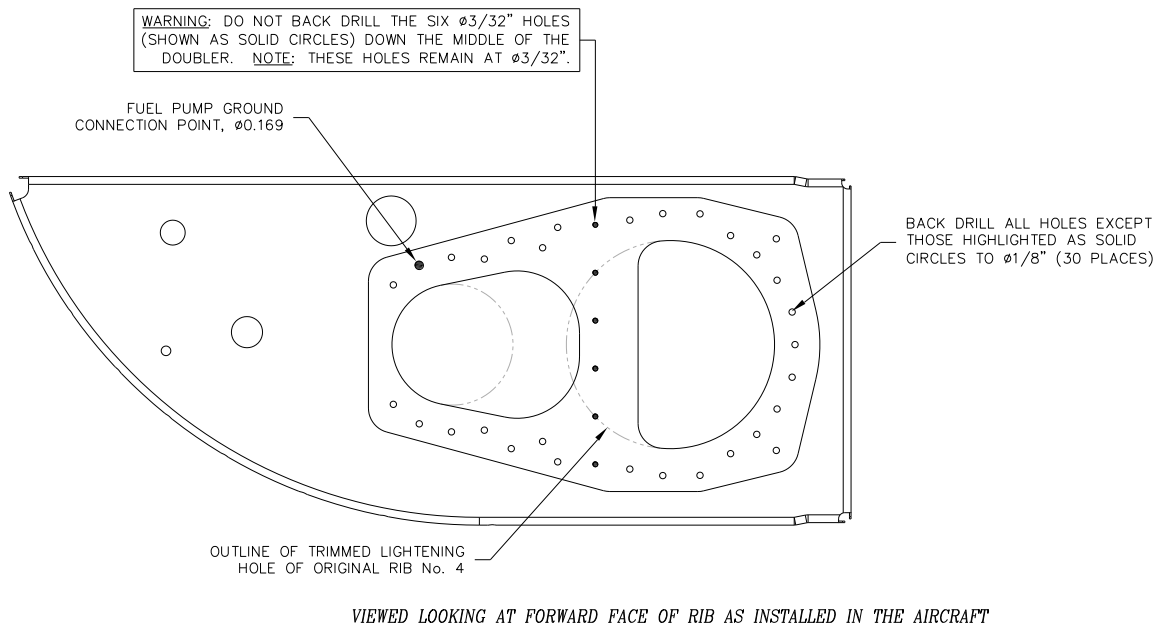

Figure 3
18. Position the rib no. 4 doubler (P/N GA8-532021-173) on the forward face of the rib, centrally over the lightening holes of the rib in accordance with figure 3. Back drill the holes in the doubler to 1/8" diameter in accordance with figure 3.
DO NOT BACK DRILL THE SIX 3/32" DIAMETER HOLES DOWN THE MIDDLE OF THE DOUBLER (SHOWN AS SOLID CIRCLES IN FIGURE 3) TO 1/8" DIAMETER. THESE HOLES ARE USED TO ATTACH THE PACKER AND STIFFENER AND MUST REMAIN AT 3/32" DIAMETER.